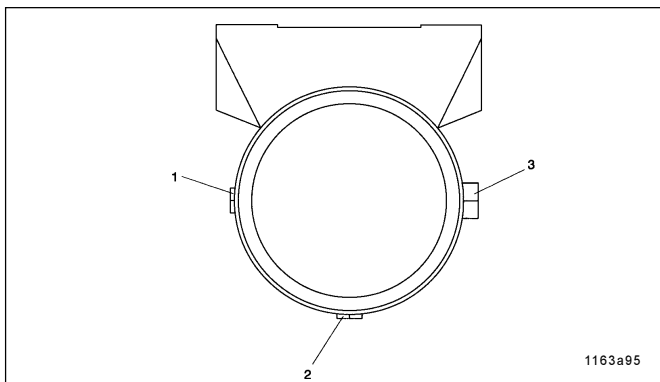

Fig. 10 - Arrangement of the pump elements
- If several pump elements are to be installed, the installation arrangement shown in fig. 10 must be adhered to.